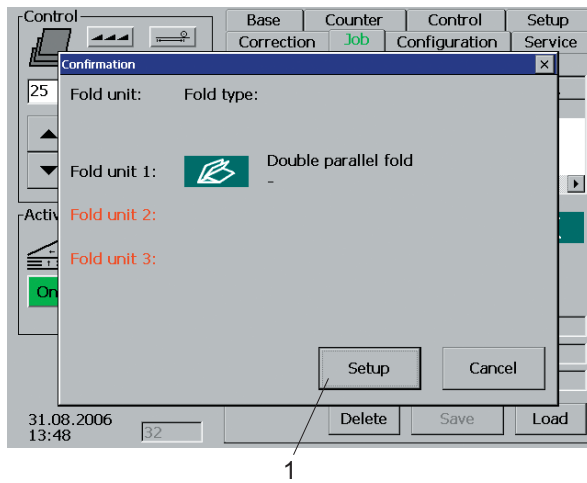

Fig. 29 Setup
4. Touch the *Load* key (Fig. 29/1).